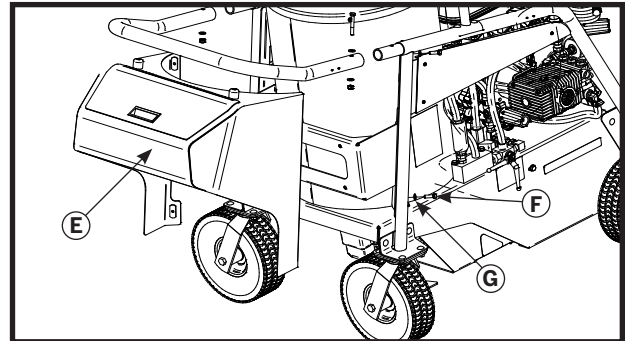

Figure 2
1. Install the storage compartment (E on figure 2) with 5/16" NC x 1" bolts and 5/16" flat washers (F and G on figure 2).